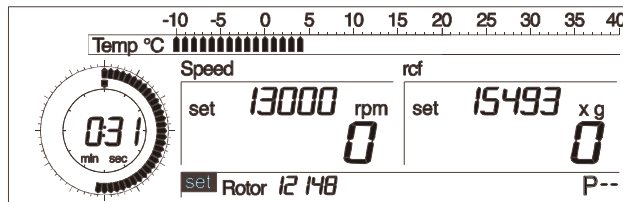

Fig. 5.18: Preselection of a rotor
- Turn the left rotary knob until “set” appears in front of the option “Rotor” on the display (Fig. 5.18).